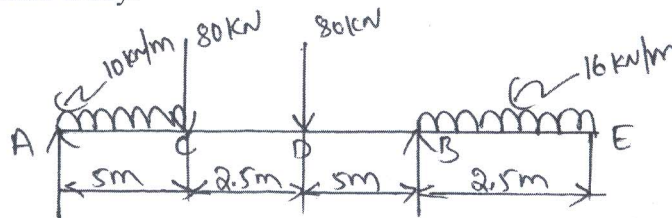

Fig.Q.6(b)
b. Draw shear force and bending moment diagram for a beam shown in Fig.Q.6(b). Locate point of contra flexure if any. (10 Marks)